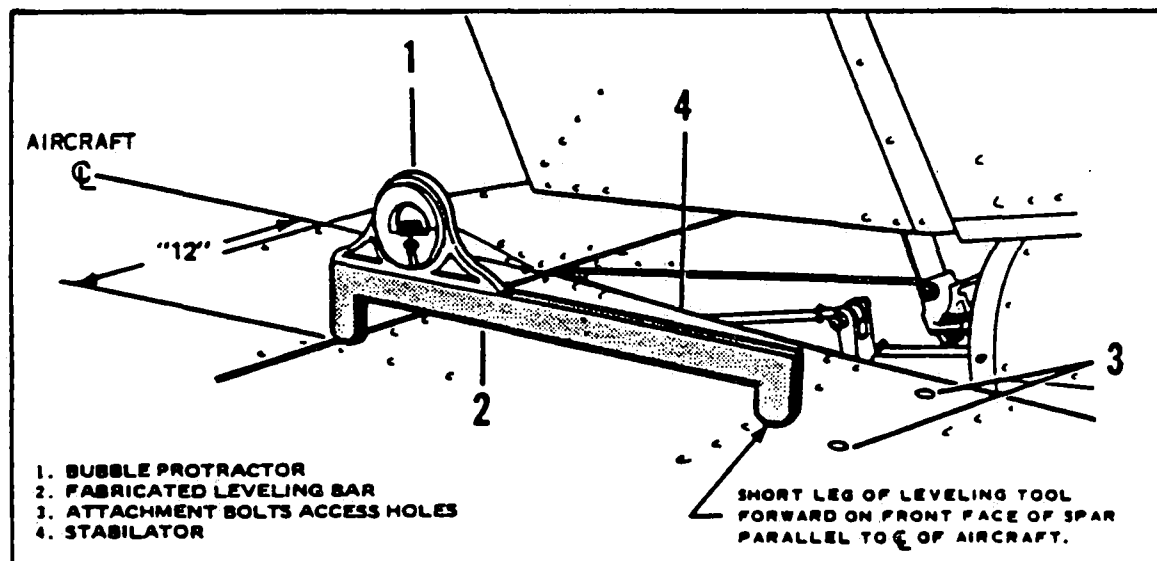

Figure 5-6. Stabilator Rigging Tool
- 1. Check the travel by placing a rigging tool on the upper surface of the stabilator as shown in Figure 5-6. (This tool may be fabricated from dimensions given in Figure 5-19.)